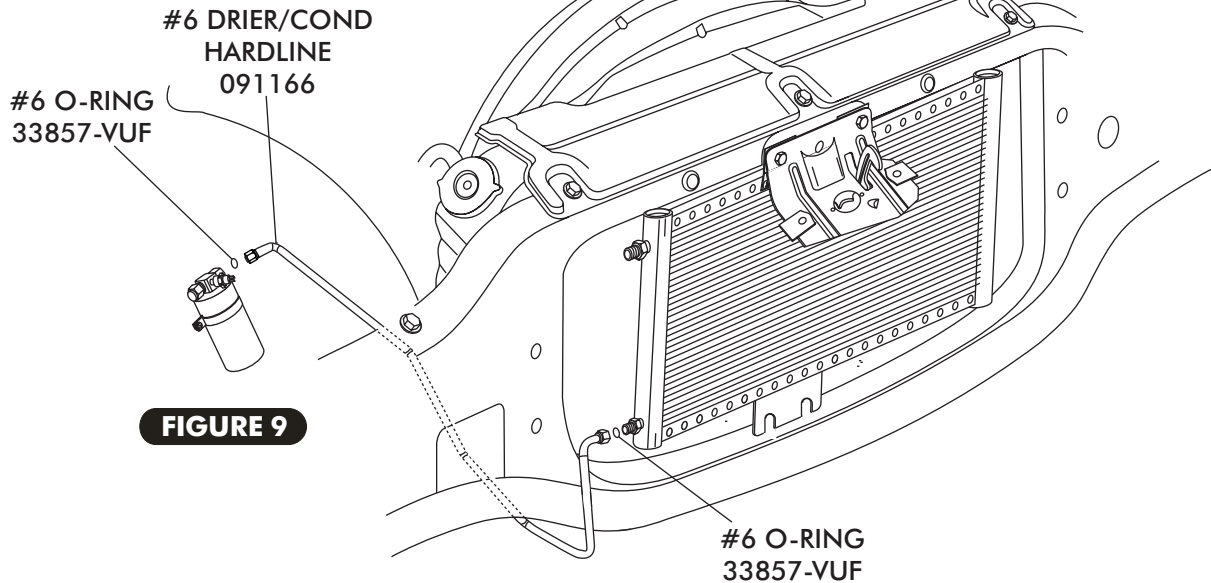

FIGURE 9
- LUBRICATE (2) #6 O-RING (SEE FIGURE 8) AND INSTALL THE #6 DRIER/COND HARDLINE AS SHOWN IN FIGURE 9 BELOW. TIGHTEN FITTINGS AS SHOWN IN FIGURE 8, PAGE 8.